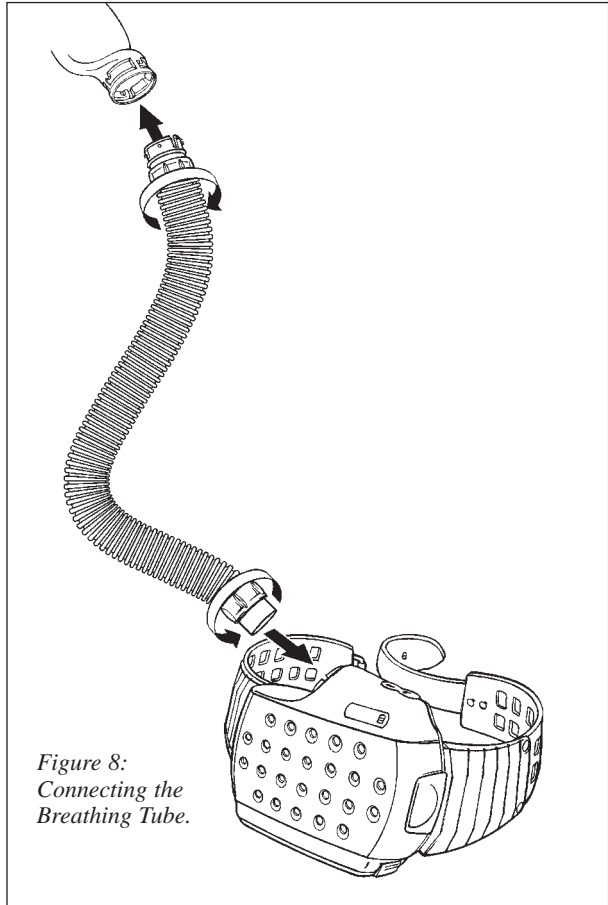

Figure 8:
- 14) After confirming adequate airflow, filter condition, and alarm function, assemble breathing tube to the airduct of the headpiece assembly (see Figure 8). Make certain to twist the breathing tube end connector until it locks into place in the “J” channel of the headpiece’s airduct.
- 4) Inspect the breathing tube for any kinks, breaks, tears or holes. Insert the end connector of the breathing tube into the Adflo® unit and twist it until it locks into place in the “J” channel (see Figure 8).